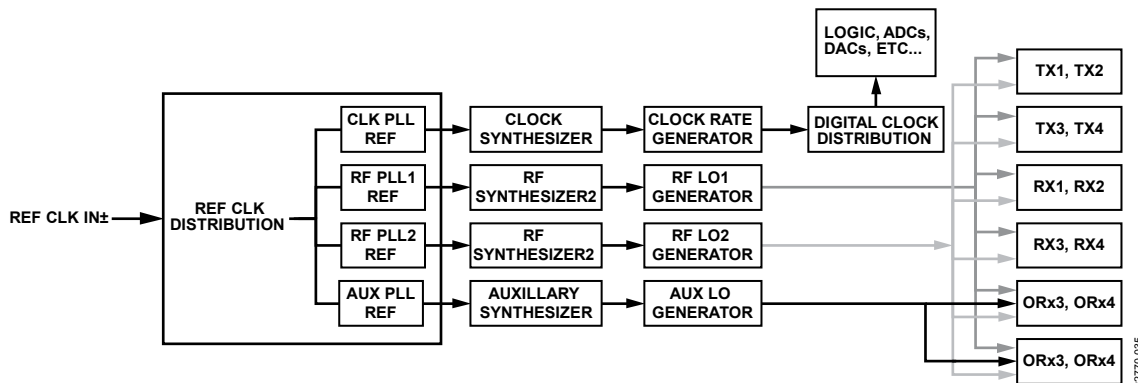

Figure 35. Synthesizer Interconnection and Clock/LO Distribution Block Diagram
The ADRV9026 employs four phase-locked loop (PLL) synthesizers: Clock, RF ( $\times 2$ ), and Auxiliary. Each PLL is based on a fractional-N architecture and consists of a common block made up of a reference clock divider, phase frequency detector, charge pump, loop filter, feedback divider, and digital control block and either a 1 or 4 core voltage-controlled oscillator (VCO). The AuxPLL and CLKPLL VCO have a tuning range of 6.5 GHz to 13 GHz. The RFPLL1 and RFPLL2 VCO have a tuning range of 6.4 GHz to 12.8 GHz. Each PLL drives its own local oscillator (LO) generator: RF LOGEN, Aux LOGEN, and CLKGEN. The output of the LOGEN block is a divided version of the VCO frequency. No external components are required to cover the entire frequency range of the device. This configuration allows the use of any convenient reference frequency for operation on any channel with any sample rate. The reference frequency for the PLL is scaled from the reference clock applied to the device. Figure 35 below illustrates the common PLL block used in the ADRV9026.